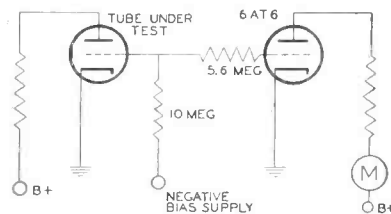

Fig. 6—Grid emission test circuit used in Dyna-Quik tester.
After detection, a video signal normally appears as shown in Fig. 4. If the signal is clipped in an *if* stage it will look like Fig. 5. Now the horizontal oscillator will try to synchronize both on the blanking signal (A) and on the very black portions of the video (B). This results in pulling or shaking of the picture. To achieve this sensitive grid emission or gas test, the circuit shown in Fig. 6 was employed.